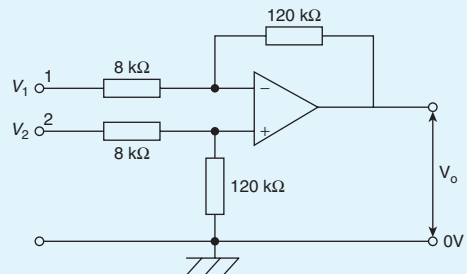

Figure 19.21
5. In the differential amplifier shown in Fig. 19.21, determine the output voltage,  $V_o$ , if: (a)  $V_1 = 4\text{ mV}$  and  $V_2 = 0$  (b)  $V_1 = 0$  and  $V_2 = 6\text{ mV}$  (c)  $V_1 = 40\text{ mV}$  and  $V_2 = 30\text{ mV}$  (d)  $V_1 = 25\text{ mV}$  and  $V_2 = 40\text{ mV}$